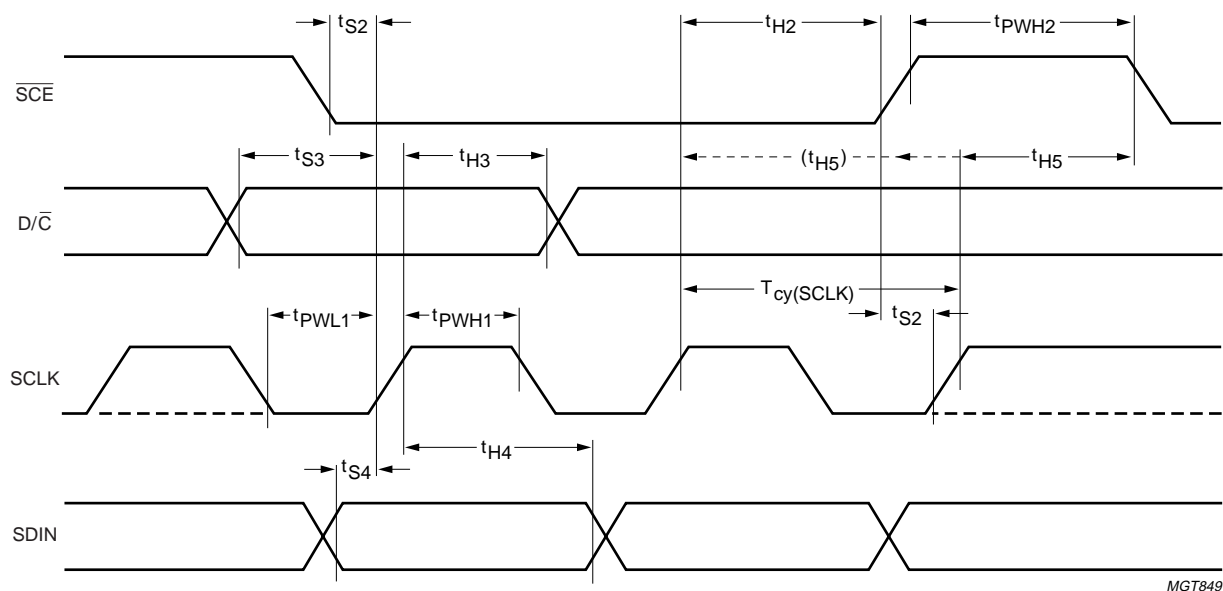

Fig.15 Serial interface timing.
4. t_{H5} is the time from the previous SCLK positive edge (irrespective of the state of \overline{SCE}) to the negative edge of \overline{SCE} (see Fig.15).